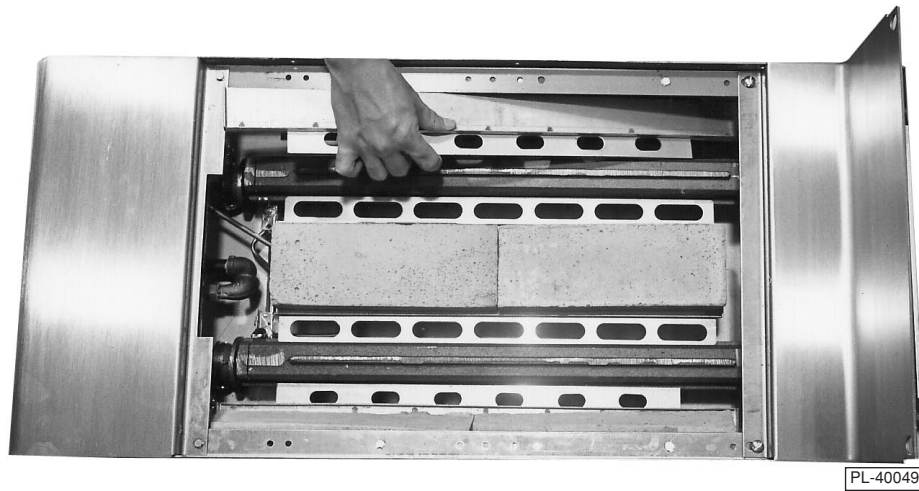

Fig. 14
2. Narrow Supports (2) — Place one on each side with smooth surface down and oval holes to outside (Fig. 14).